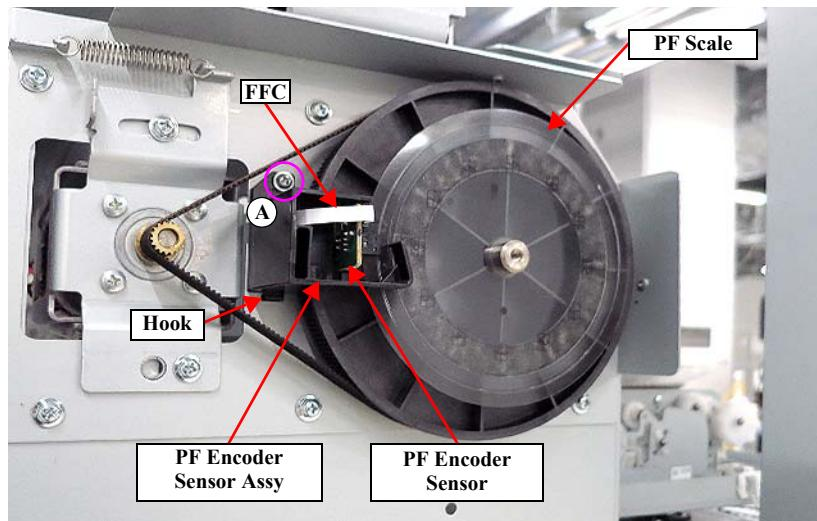

Figure 3-315.
- When attaching, tighten the screws after inserting the hook of the PF Encoder Sensor Assy into the frame. (Figure 3-315)
- Insert the PF Scale into the slit in the PF Encoder Sensor. (Figure 3-315)